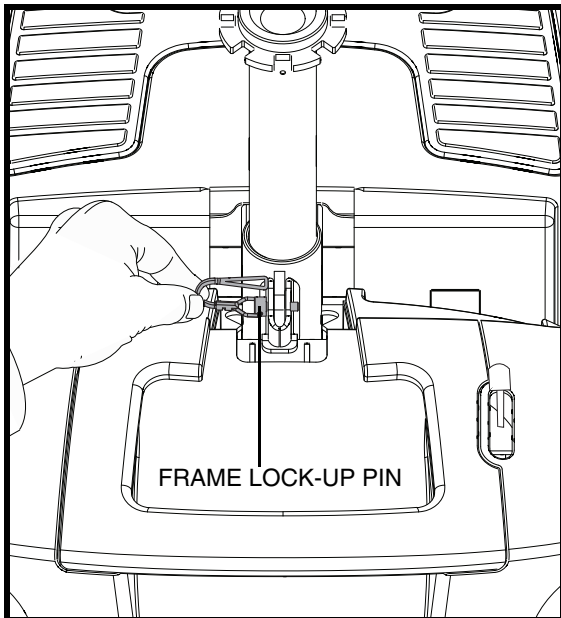

Figure 20. Frame Lock-Up Pin
2. Remove the frame lock-up pin. See figure 20.